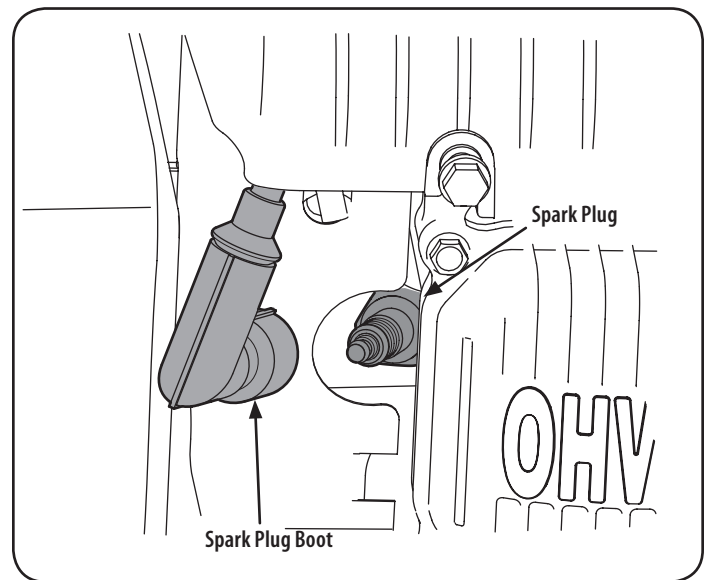

Figure 12
1. Remove the spark plug boot and use a spark plug wrench to remove the plug. See "Figure 12".